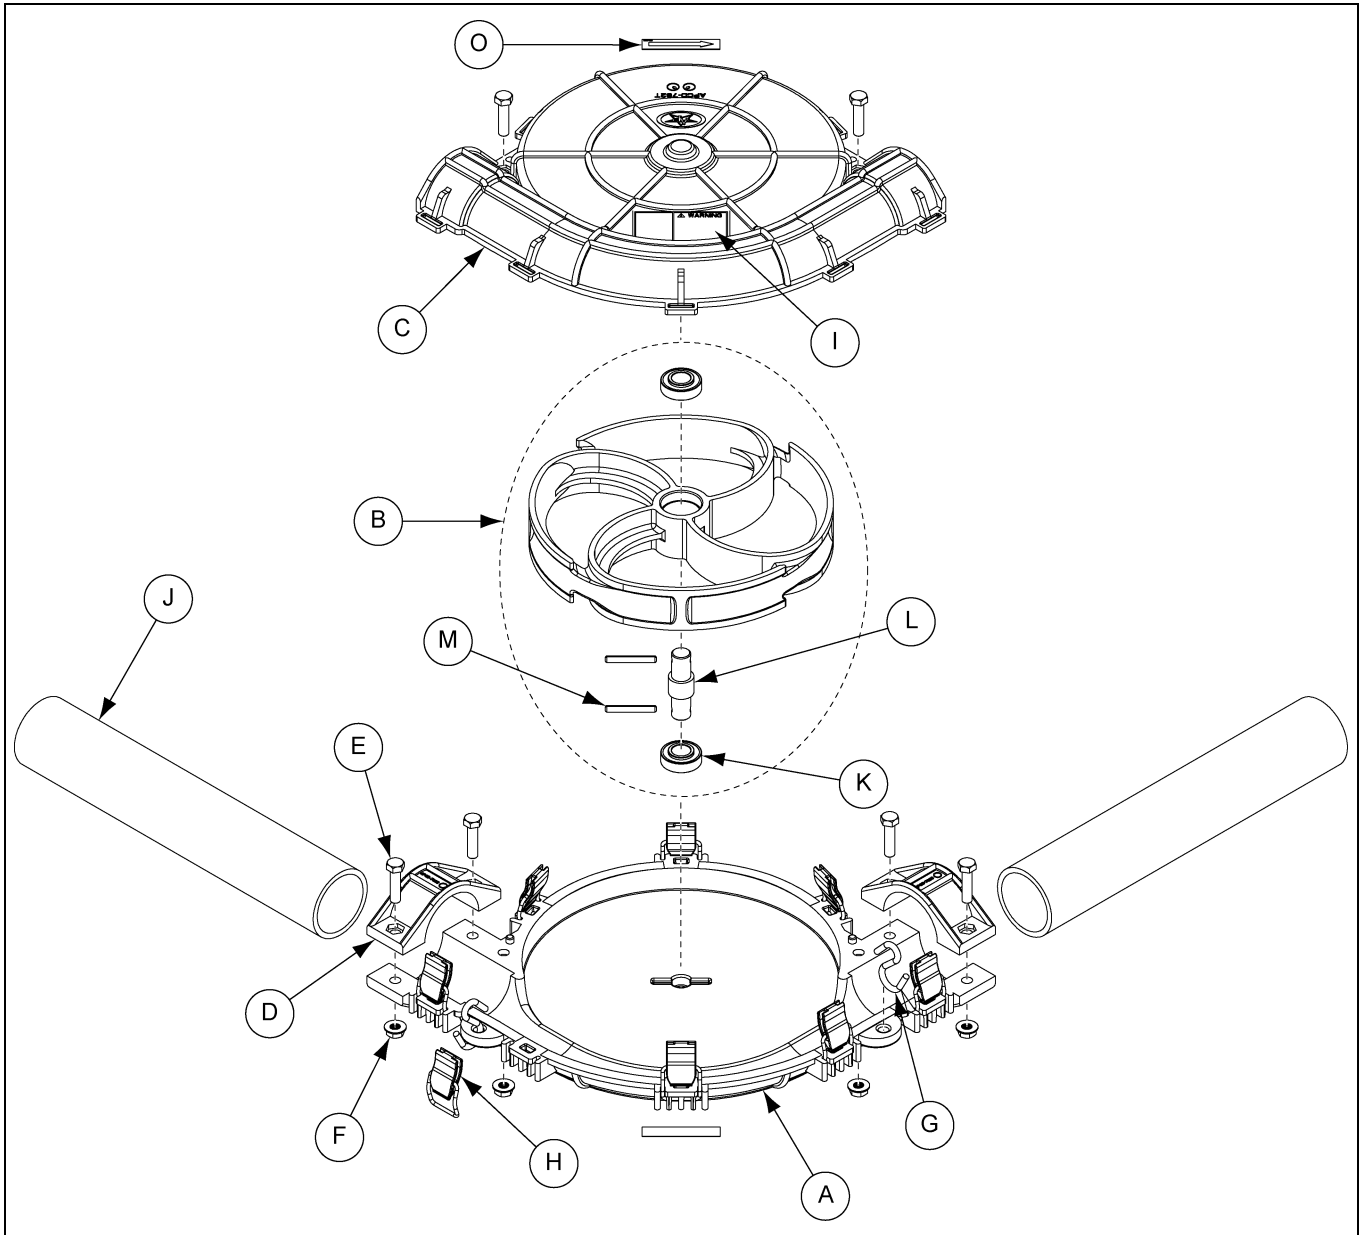

Figure 8B Chain Disk Vertical Clear Corner Assembly with Latches
2. The top of the corner can remain off until after the chain and disks are installed. Corner must be suspended using the two (2) S-hook provided to avoid tubing wear. Use one S-hook on each side of the corner. (See Figure 8A below and Figure 8B on Page 27.) Place the S-hook over the add on clamps so that the corners will be supported before tops are installed.